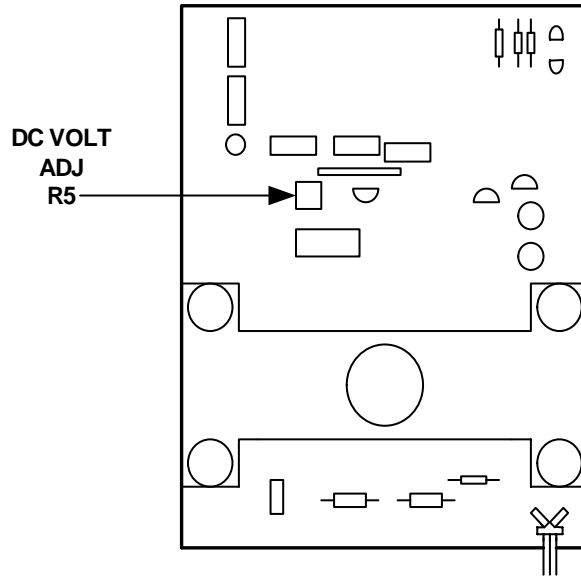

Figure 1. Adjustment location.
(1) Set calibrator for an output amplitude of 190.00 mV.
(2) Adjust potentiometer DC VOLT ADJ R5 range, (fig. 1) until TI indicates 190.0 mV (R).